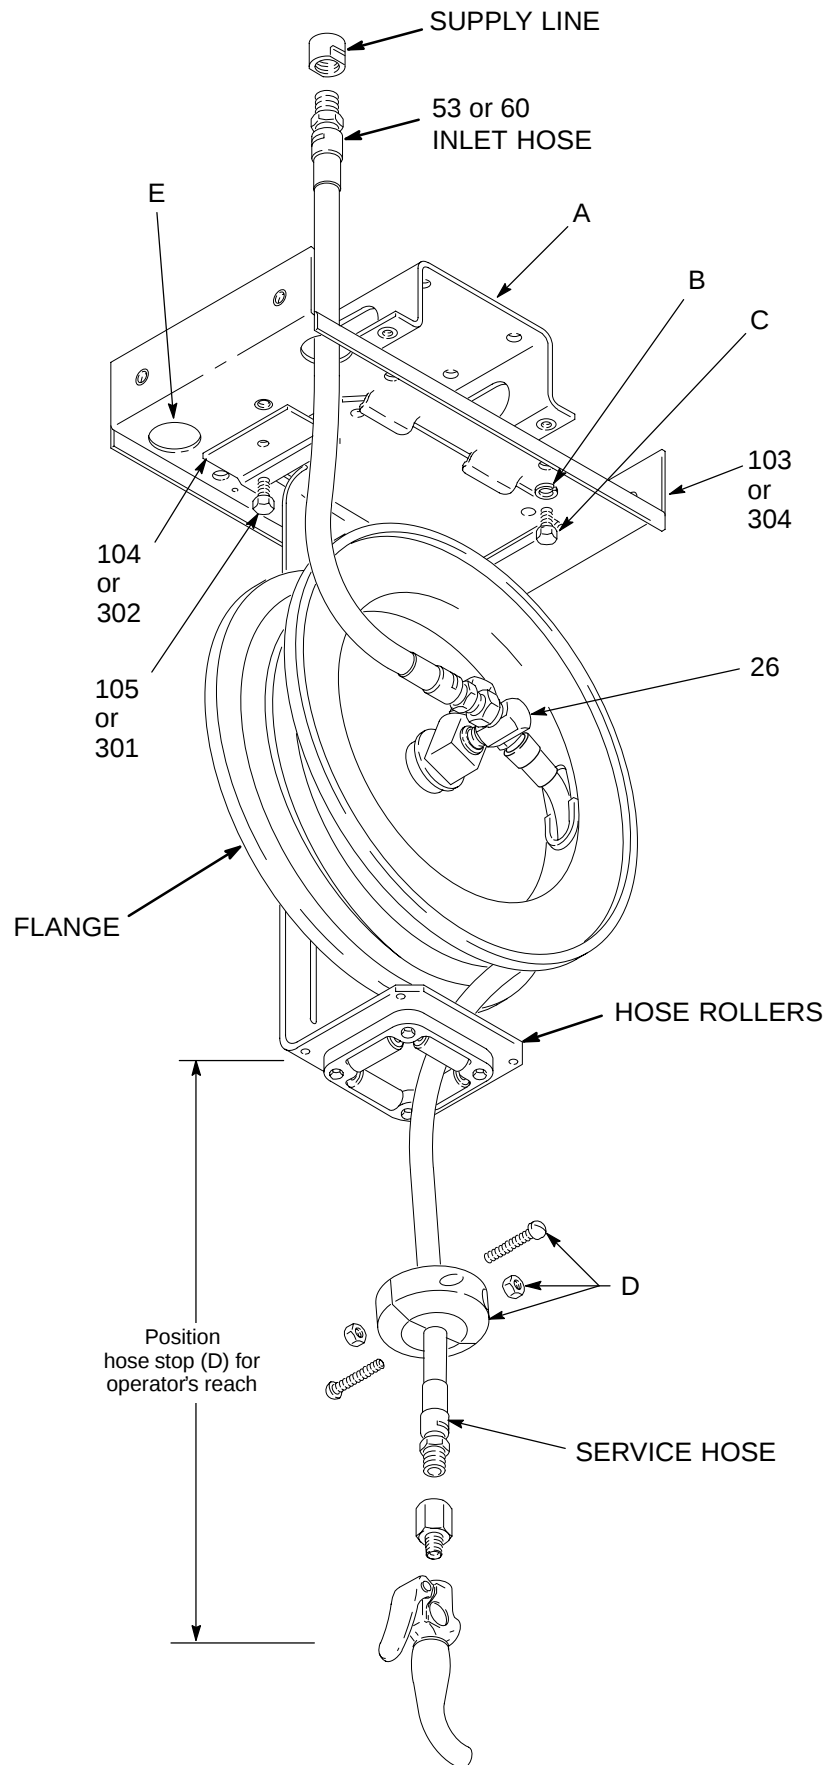

Fig. 4
If you are installing the hose reel enclosure, bolt the reel base (103) to the mounting channel (A), using the lockwashers (B) and screws (C) which are supplied with the mounting channel. See Fig. 4, page 11.
4. Slide the hose reel onto the mounting base and install the hold-down plate (104 or 302) and capscrew (105 or 301). Tighten screw firmly. See Fig. 4.
Position the hose stop so the hose extends far enough for all operators to reach it. See Fig. 4.